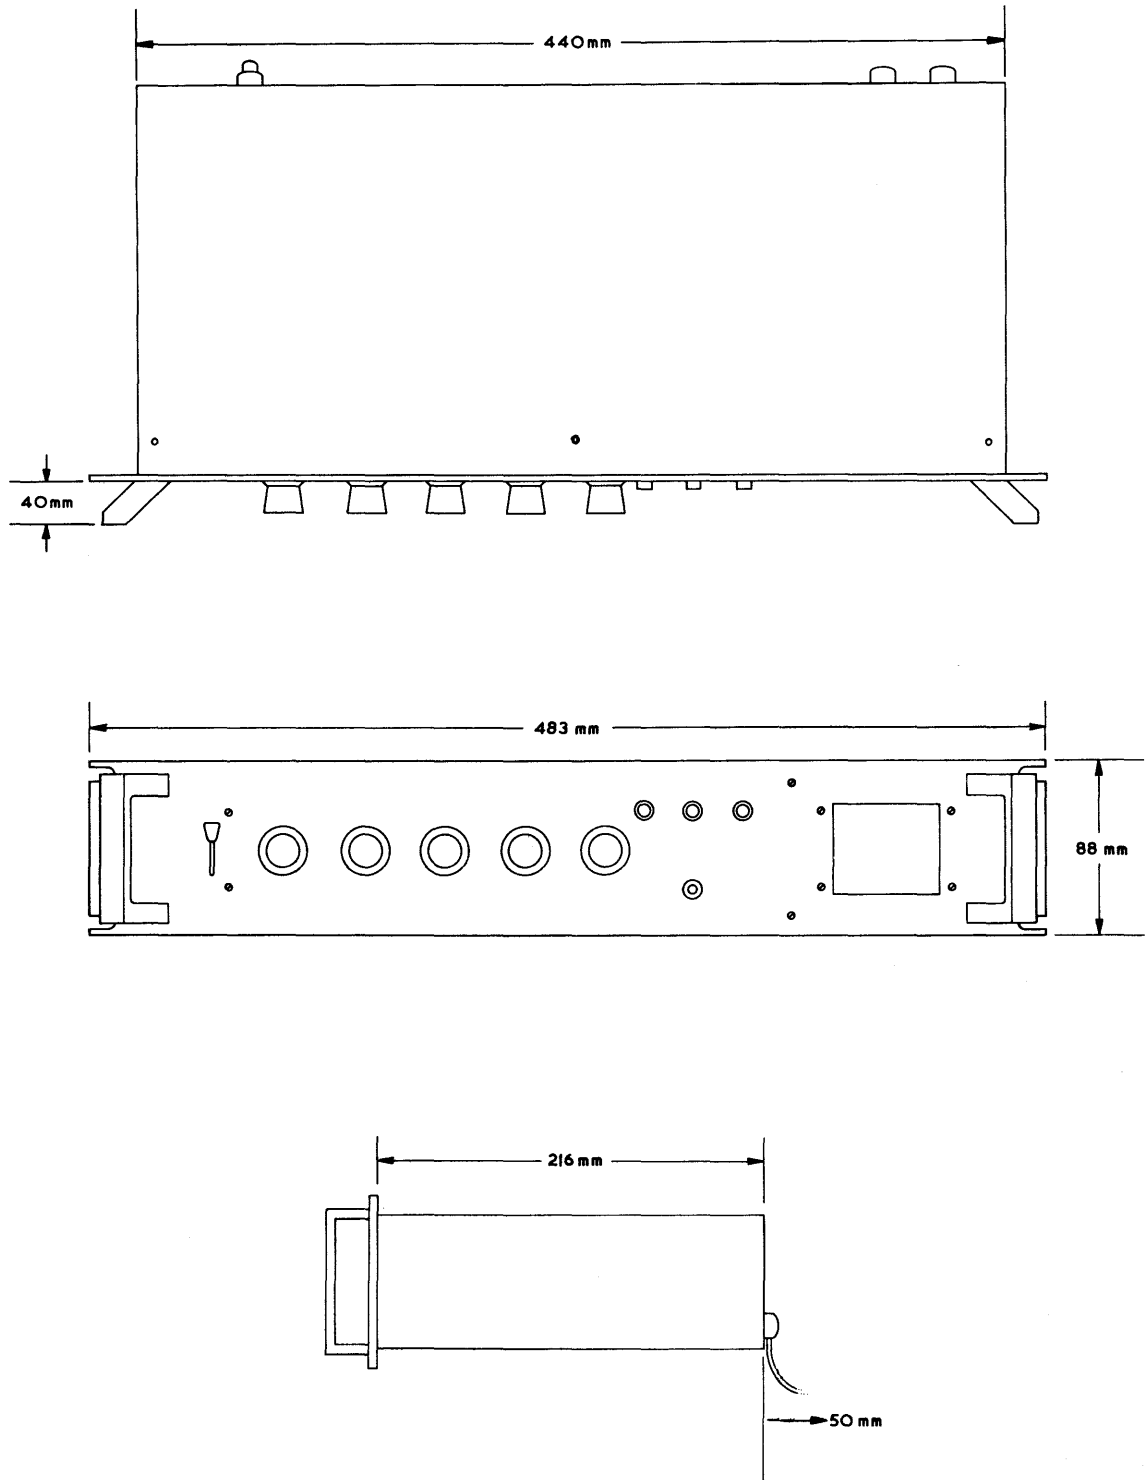

Fig. 3.1 Overall dimensions of EC964/7 series receivers.
All versions of the EC964/7 receiver have the same overall dimensions, shown in Fig. 3.1, and are designed for direct mounting in 483mm (19in.) racking. Fixing slots conform to a standard centre-spacing of 76mm (3in.), and the receiver should be secured to the rack by four ¼in. BSF chromium-plated screws (Eddystone ref. 40A-330). Damage to the front-panel finish can be prevented by the use of plain washers (Eddystone ref. 27E-57).
The figure of 50mm shown in Fig. 3.1 for rear-mounted plugs etc., includes sufficient space to allow cables entering the receiver in the same plane to be bent at right-angles over a reasonable radius.